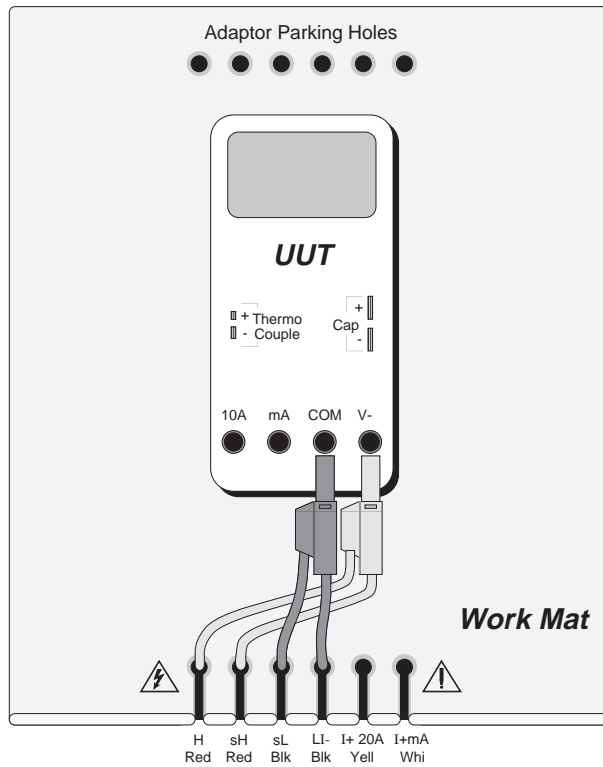

Fig. 9.1 Connections for Frequency Calibration
1. Connections Connect the 9100 to the UUT as shown in Fig. 9.1 , and ensure that both instruments are powered ON and warmed up.
Connect the 9100 to the UUT as shown in Fig. 9.1 , and ensure that both instruments are powered ON and warmed up.